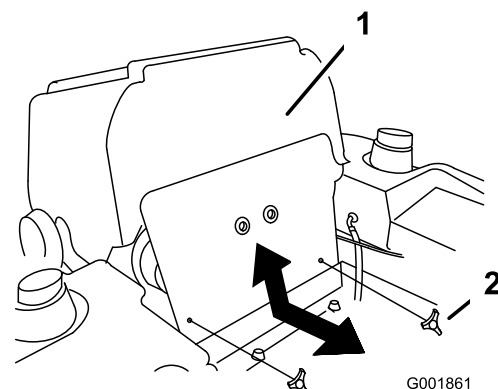

Figure 66
3. Tilt the seat forward and remove the front engine panel (Figure 66).
- Install the front engine panel (Figure 66).